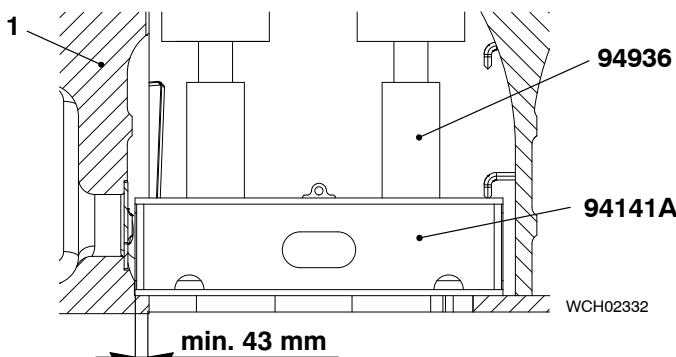

Fig. 14
- 2) Put the bracket (94141A, Fig.14) on the two main bearing girders (1) parallel to the engine axis.